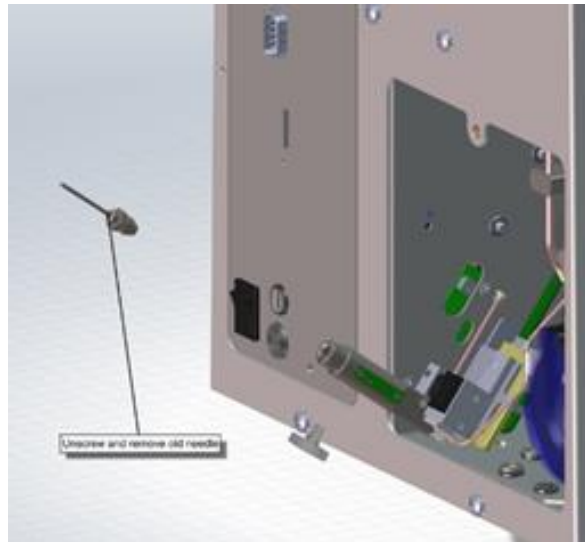

Figure 10
- Using an 8mm hex socket on the Multitool, unscrew the old Needle Tip (counterclockwise) from Needle Piston Assembly. Discard the Needle Tip in proper Biohazard disposal (see Figure 10).